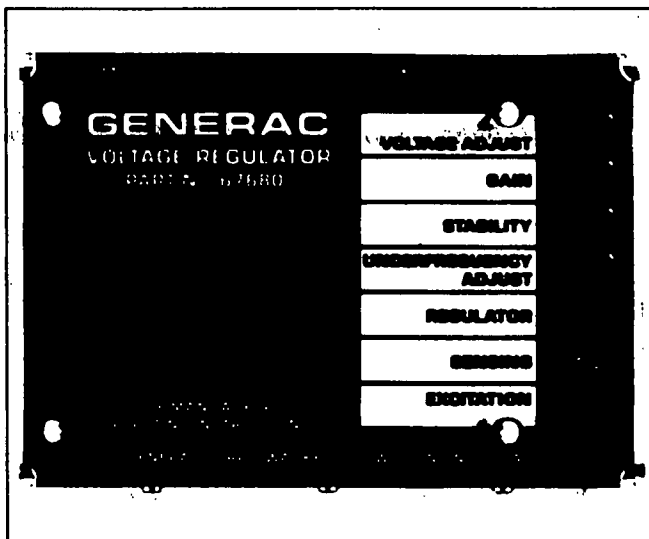

Figure 12. Voltage Regulator
- Gain access to the regulator in the control console. See Figure 12. Adjust the voltage regulator as follows: